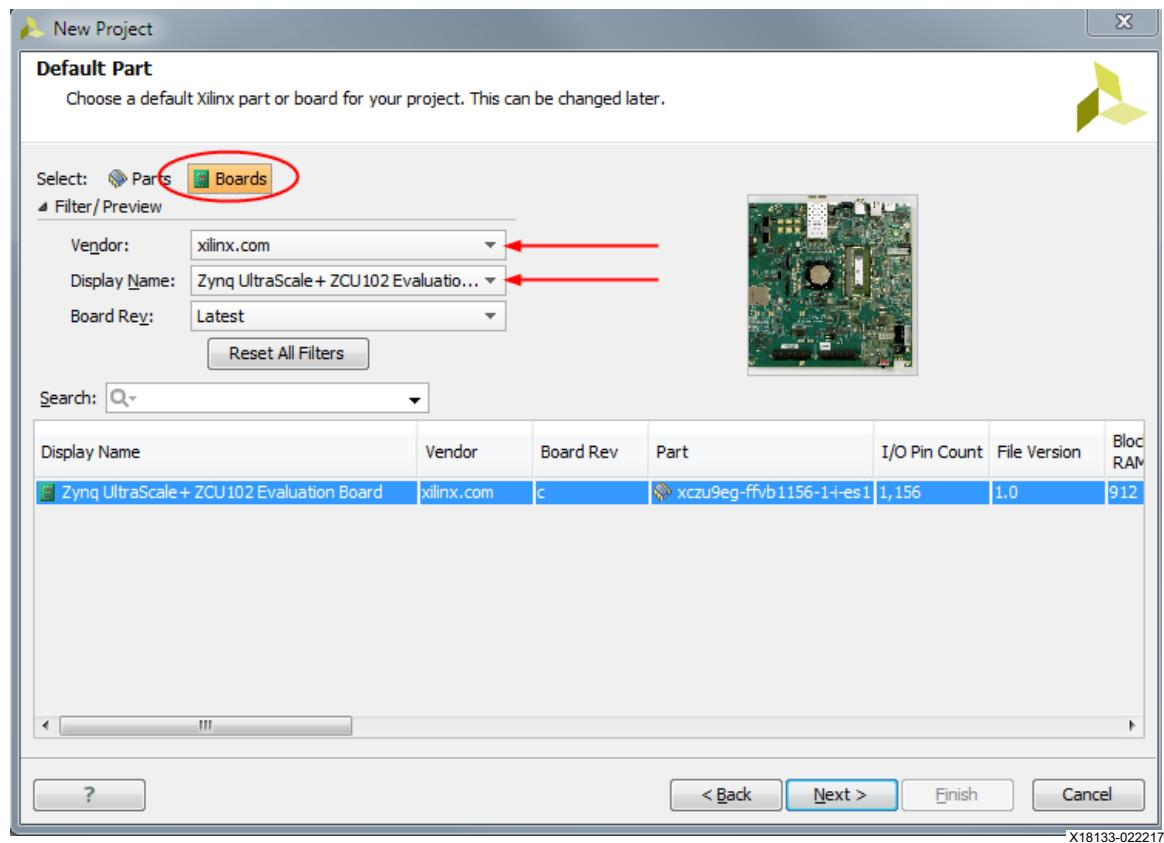

Figure 4: Board Selection
- d. Select **Boards**, set **Xilinx** as the vendor, and select **Zynq UltraScale+ ZCU102 Evaluation Board**. See Figure 4.